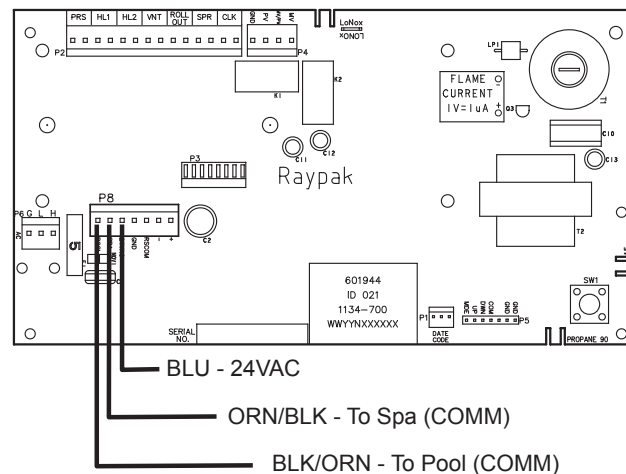

Figure 42. 3-Wire Remote Harness Installation on the P8 Connector of the Board
5. Install the "Remote Interface Harness" to the P8 connector and turn power ON to the heater. See **Figure 42**.